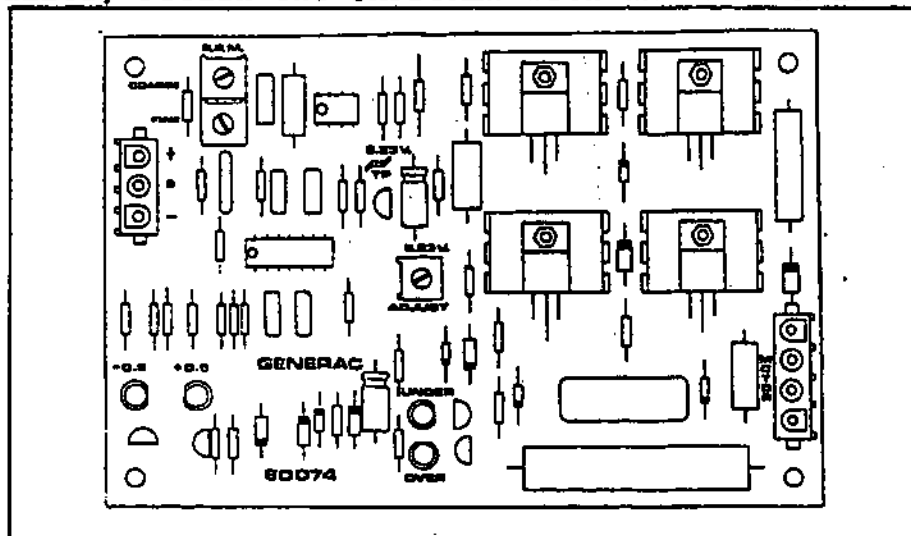

Figure 4.5-F. Throttle Positioner Printed Circuit Board
4.5.6- FINAL ADJUSTMENT (Figure 4.5-F)